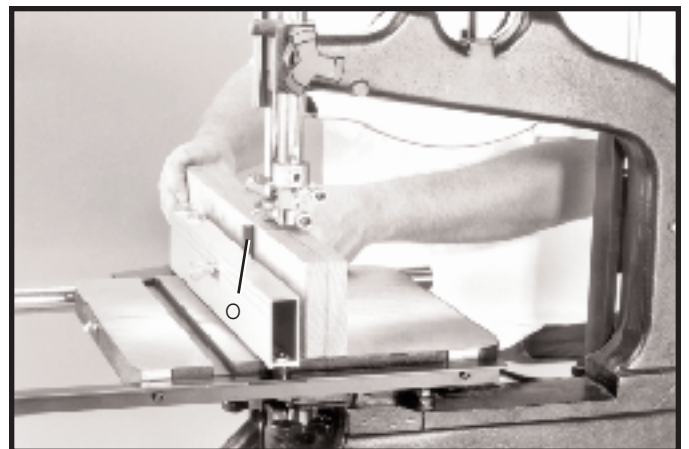

Fig. 49
4. Fig. 49, illustrates a typical resawing operation using the guide post (O) assembled to the rip fence.